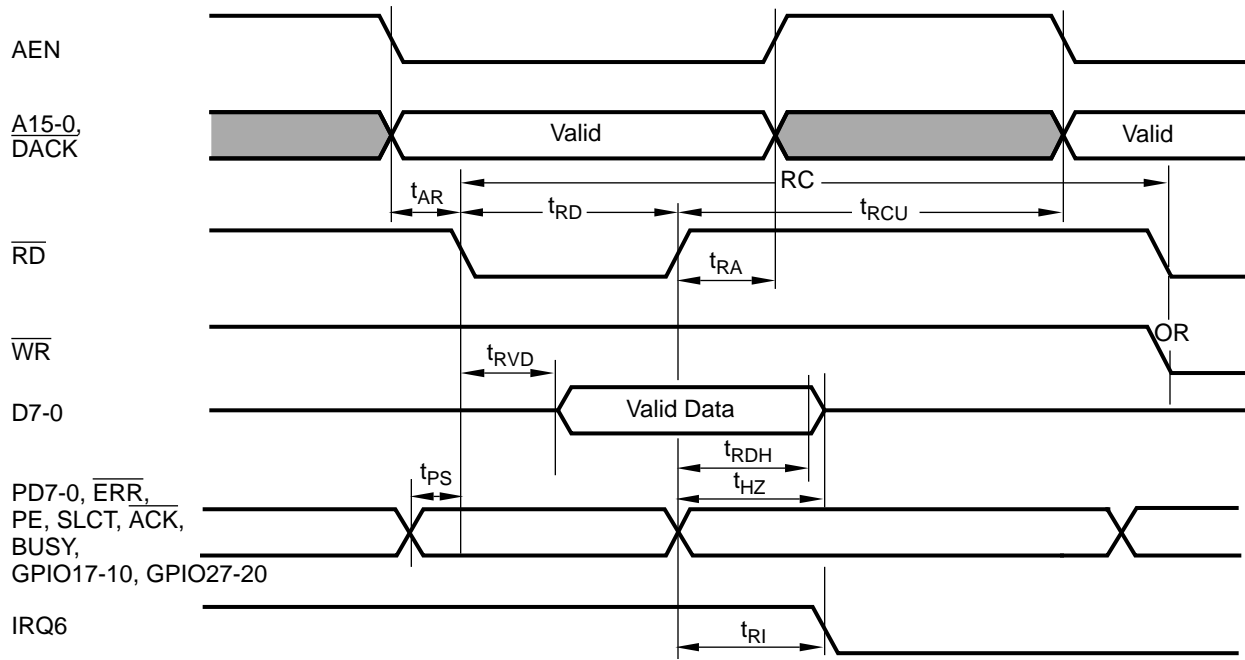

FIGURE 13-3. Microprocessor Read Timing
2. See read cycle timing in Figure 13-3.